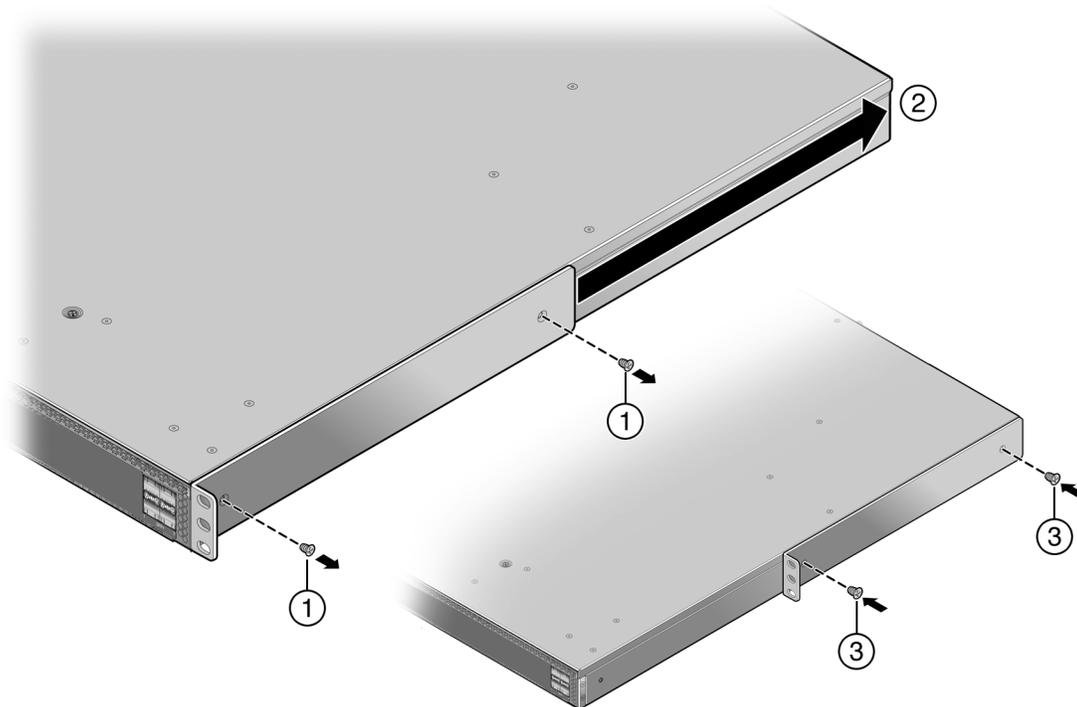

Figure 6: Mid-Mount I/O Ports Facing Front Configuration
- 1 Unscrew the two rack mount ear screws as shown by callout 1 in Figure 6: Mid-Mount I/O Ports Facing Front Configuration on page 20.